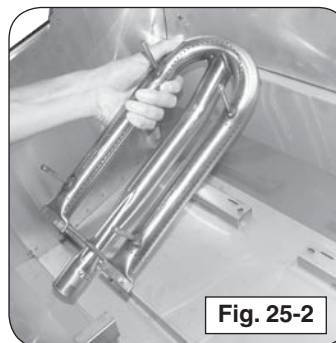

Fig. 25-2
3. Carefully lift the burner from the burner support and out from the hole in the forward fire wall (see Fig. 25-2).